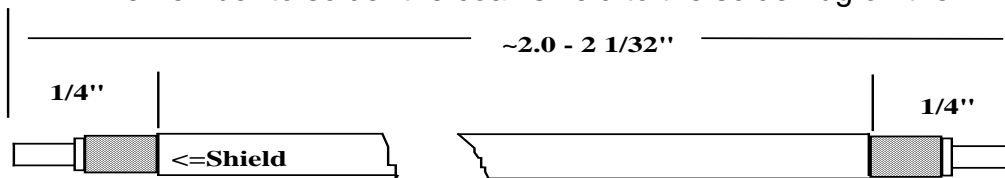

Figure 6 Cable shown broken for clarity
Prepare the common output coaxial cable as follows: (See Figure 6)
2. Prepare two pieces of RG/188 coax, one as shown in Figure 6 of the DEM assembly documents. The other should be prepared as shown in Figure 6 with the exception that the cut length should be 3 1/8"